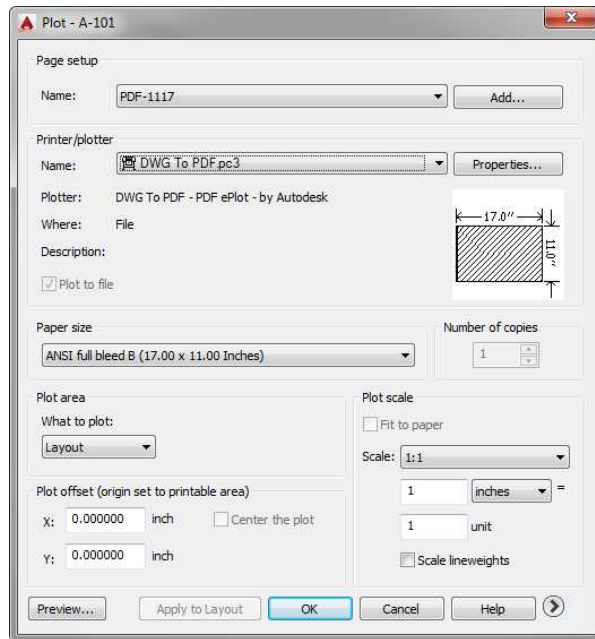

FIGURE 15.2: The simplified Plot dialog box
- Click the Output tab, and then click the Plot button on the Plot panel to open the Plot dialog box shown in Figure 15.2.
- If the Plot dialog box opened in its simplified format shown in Figure 15.2, expand it by clicking the More Options disclosure triangle button.